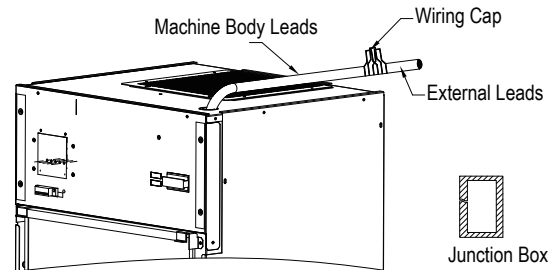

Fig 2
- 2- Connect the external power supply leads and the power supply leads of the machine body with safety wiring cap crimps terminals, see Fig 2 (If the wiring cap are placed outside the machine, they need to be put into the junction box; If the wiring cap are placed inside the machine, junction box is not needed.